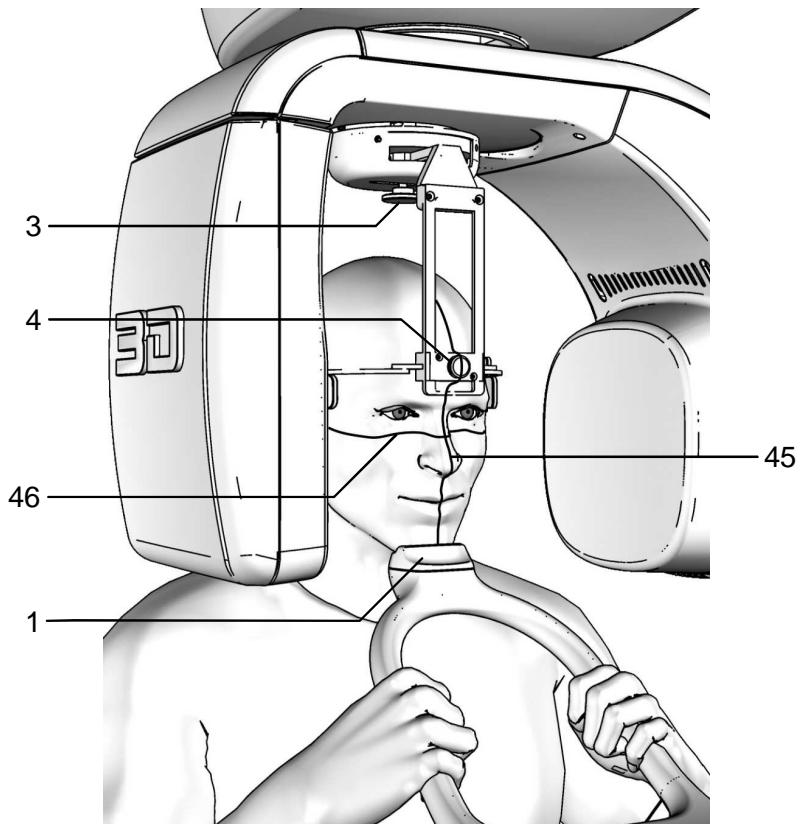

Figure 22 – 3D Sinus positioning
4. Verify that the temple clamp device is in the central position (Figure 10), and if necessary move it using the appropriate control on the top of the support (Figure 22).
5. Place the patient in the temple clamp (Figure 22) by placing the chin on the surface of the relevant support; the hands should rest on the front handgrips; the patient must rest the chin against the reference on the chin support.
8. Press the key "Centring devices ON" (14) .
9. Place the temple clamp in contact with the patient's head by means of the appropriate knob (Figure 22). In order to help the patient maintain the correct posture, use the head strip on the temple clamp passing it behind the nape of the patient's neck; check that, during this phase, the patient has not changed position.
11. Press the key "Patient Entrance" (7)  to confirm the parameters. The luminous centring devices switch off and the rotating arm goes to its examination start position. Once alignment has been completed, the following message will be displayed: